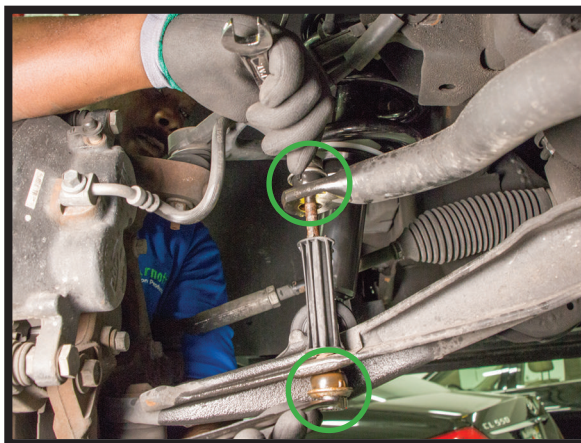

FIGURE 18
5. TIGHTEN THE SWAY BAR END LINK. (FIGURE 18)